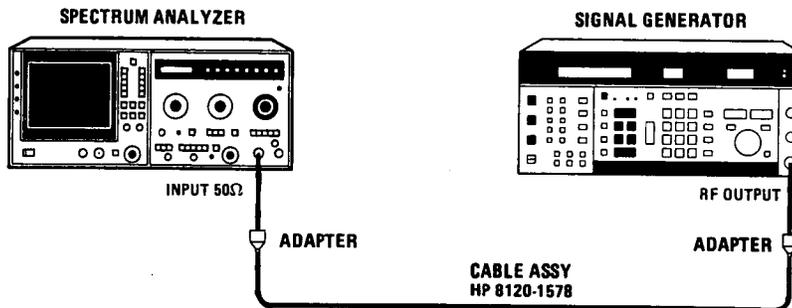

Figure 4-24. Comb Generator Frequency Accuracy Test Setup
2. Connect equipment as shown in Figure 4-24. Set signal generator output FREQUENCY to 100.000000 MHz and AMPLITUDE to -20 dBm.